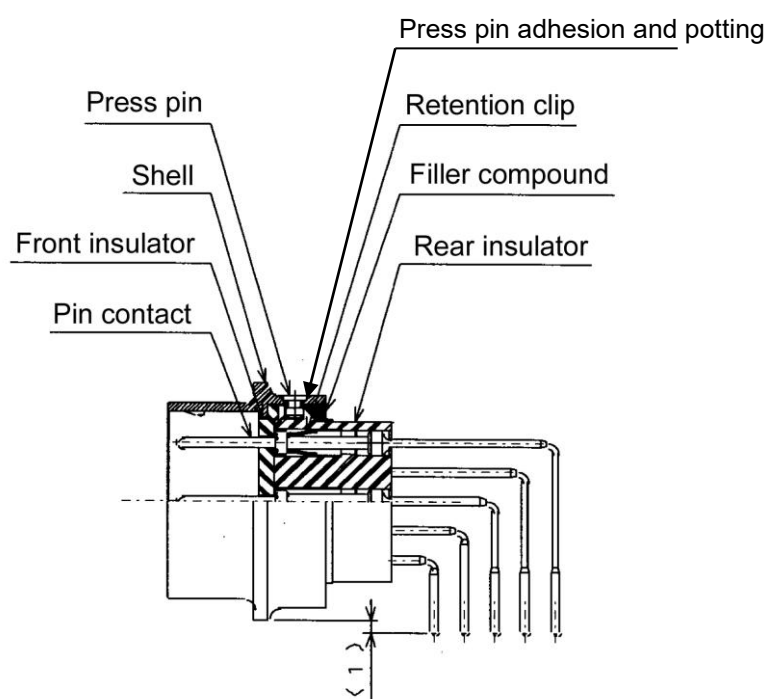

Figure 4. ND114-*P-AB(1)
- (6) Inclusion of contacts: Blank denotes that the connector includes contacts. “L” denotes that the connector does not include any contact. For a crimp-contact connector, the connector includes type “22D” contacts.
- (7) Contact category: Applicable only to crimp termination type. “22D” denotes crimp contact of size 22D.
- (8) Grommet and location plate: "R" denotes that the connector has a rear grommet. Blank denotes that the connector has no grommet. "B" denotes that the connector of right angle through hole type has no location plate, and blank denotes that the connector has a location plate
- (9) Length of right angle through hole: If the length between the tip of through hole and the connector flange surface is not $5^{+0.8}_{-0.5}$ mm, it may be specified in parentheses at the end of the part number. For example, size $1^{+0.8}_{-0.5}$ shall be indicated as ND*14-104S-A(1) as shown in Figures 4 and 5.